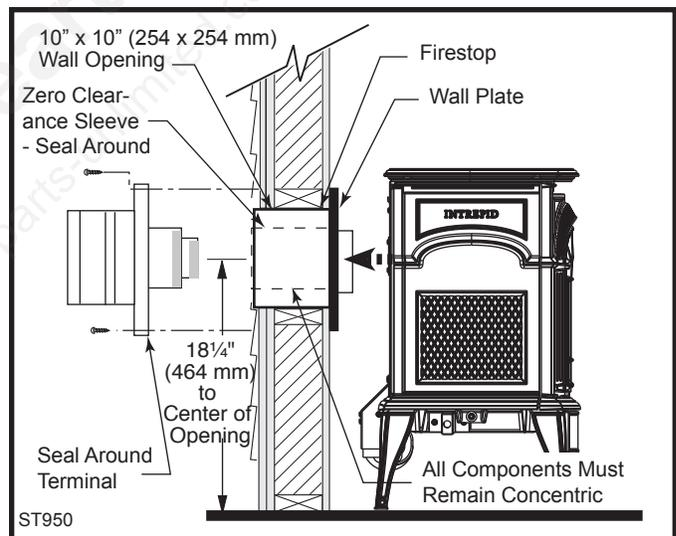

Fig. 22 Intrepid minimum horizontal rear vent installation.
2. Measure the wall thickness and cut the zero clearance sleeve sections to proper length (MAXIMUM 12"). Assemble the sleeve with the #8 sheet metal screws supplied. Attach the firestop plate to the sleeve end with the holes. (Fig. 22) **NOTE:** The zero clearance sleeve is required in combustible walls only.
- Install the vent terminal. (Fig. 22) Guide the inner and outer vent termination collars into the adjacent pipes. Double check that the vent pipes overlap the collars by 2". Fasten the termination to the outside wall with the screws provided, and caulk the joint with weatherproof sealant.